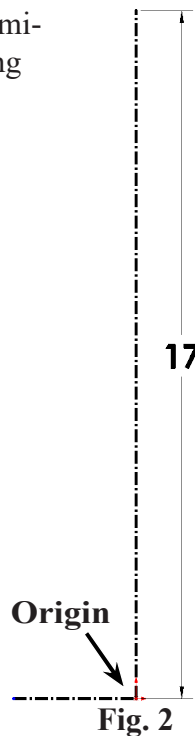

Fig. 2
- Step 4. Starting at the Origin  sketch a vertical centerline up from the Origin and a horizontal centerline out to left from Origin, **Fig. 2**. To terminate chain, double click after sketching line.
- Step 5. Click **Smart Dimension**  (S) on the Sketch toolbar.
- Step 6. Dimension the vertical centerline **17**, **Fig. 2**.